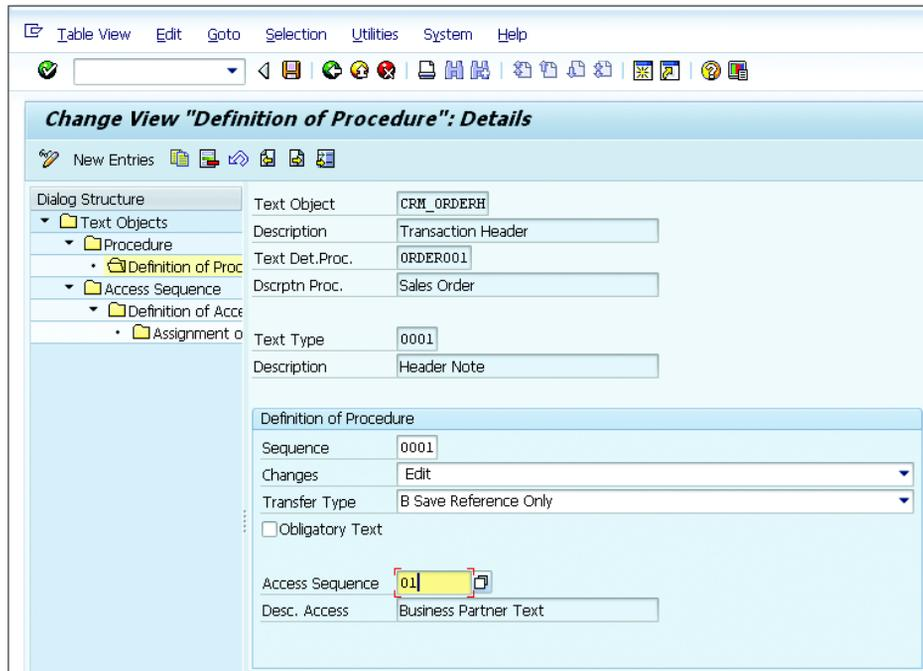

Figure 4.61 Text Procedure Details
9. Under the DEFINITION OF PROCEDURE section in Figure 4.61, complete the following fields:
10. At this level (see Figure 4.61), you can assign a name to the access sequence. You define the sequence and type of access under DEFINITION OF ACCESS SEQUENCE AND FIELD ASSIGNMENT.